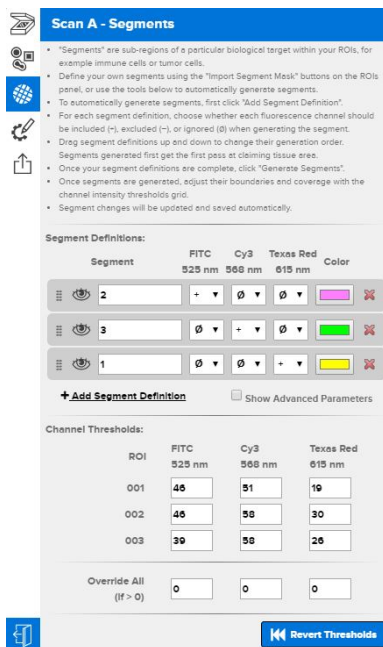

Figure 47: GeoMx DSP Scan Workspace with Exit button at lower left
1. Select the **Exit** button in the lower left of the Scan Workspace toolbar (see Figure 47) when ROI selection is complete.